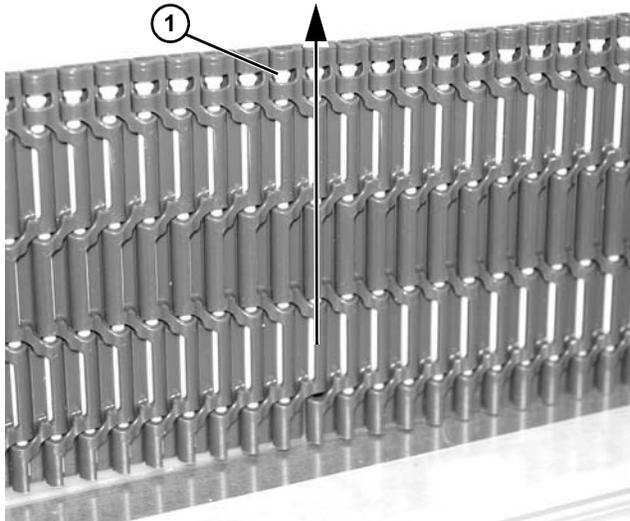

Figure 63
Note that head of pin (Figure 63, item 1) should be removed in direction shown.